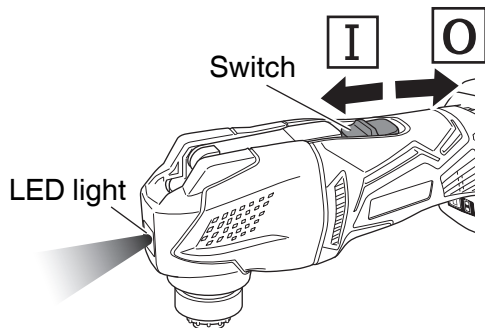

Fig. 6
6. Sliding the switch towards **I** will switch on, simultaneously activating the LED light which will light the application tool. (Fig. 6)